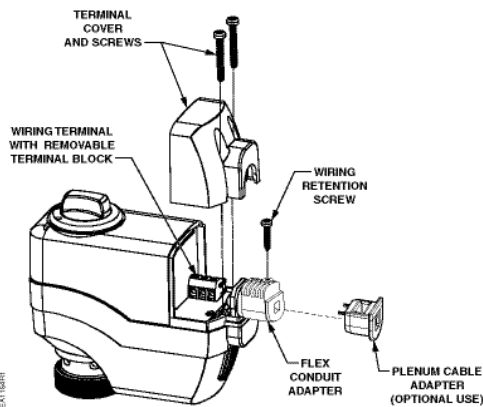

Figure 2. SSC Actuator Components.
1. Remove the terminal cover (Figure 2) using a Phillips head screwdriver.
3. Using a Phillips head screwdriver, remove the terminal cover (Figure 2).
9. Secure the terminal cover in place over the wiring terminals (Figure 2) using a Phillips head screwdriver,